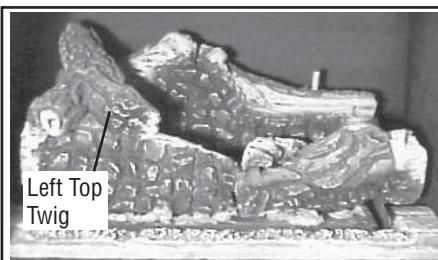

Figure 25
6. Install the left top twig onto the corresponding pin on the rear log and align it with the indentation on the front left log as shown in Figure 25.